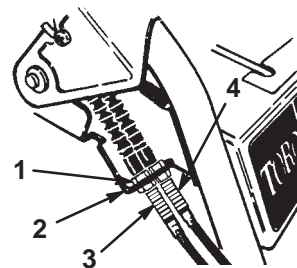

Figure 28
1. Loosen the upper jam nut that secures the traction cable to the mounting bracket (Fig. 28).
2. Rotate the bottom jam nut upward to increase the belt tension (Fig. 28).
- A. Loosen the upper jam nut that secures the auger/impeller cable to the mounting bracket (Fig. 28).